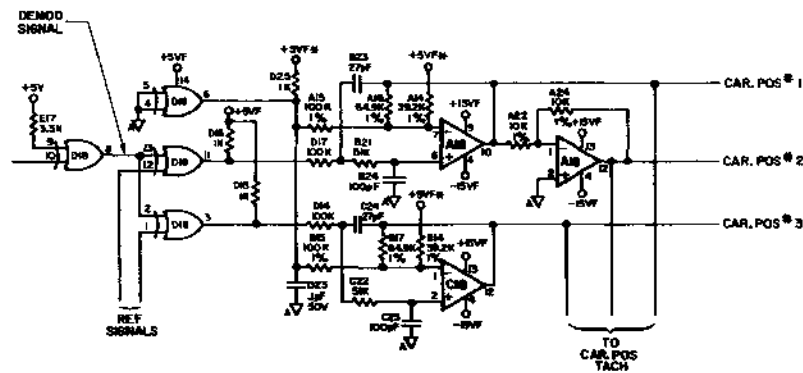
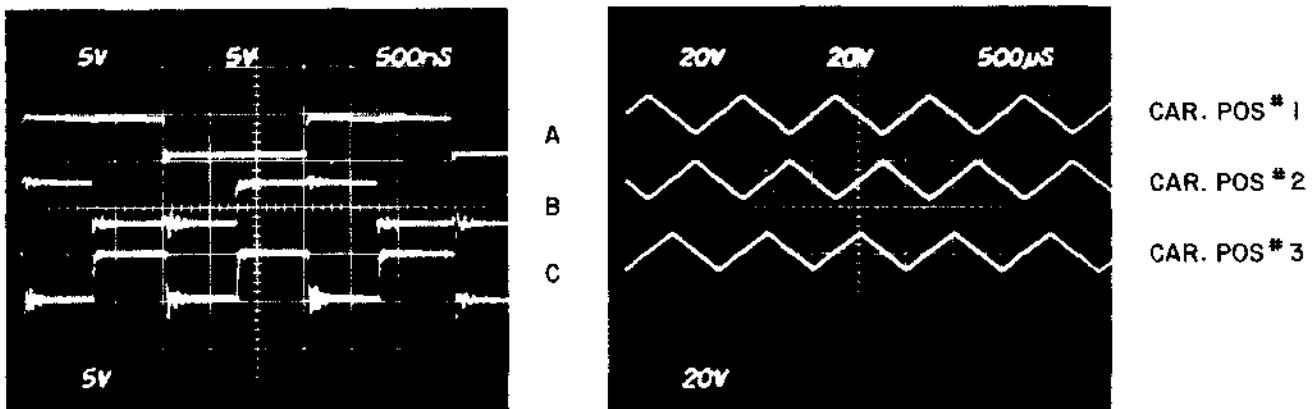
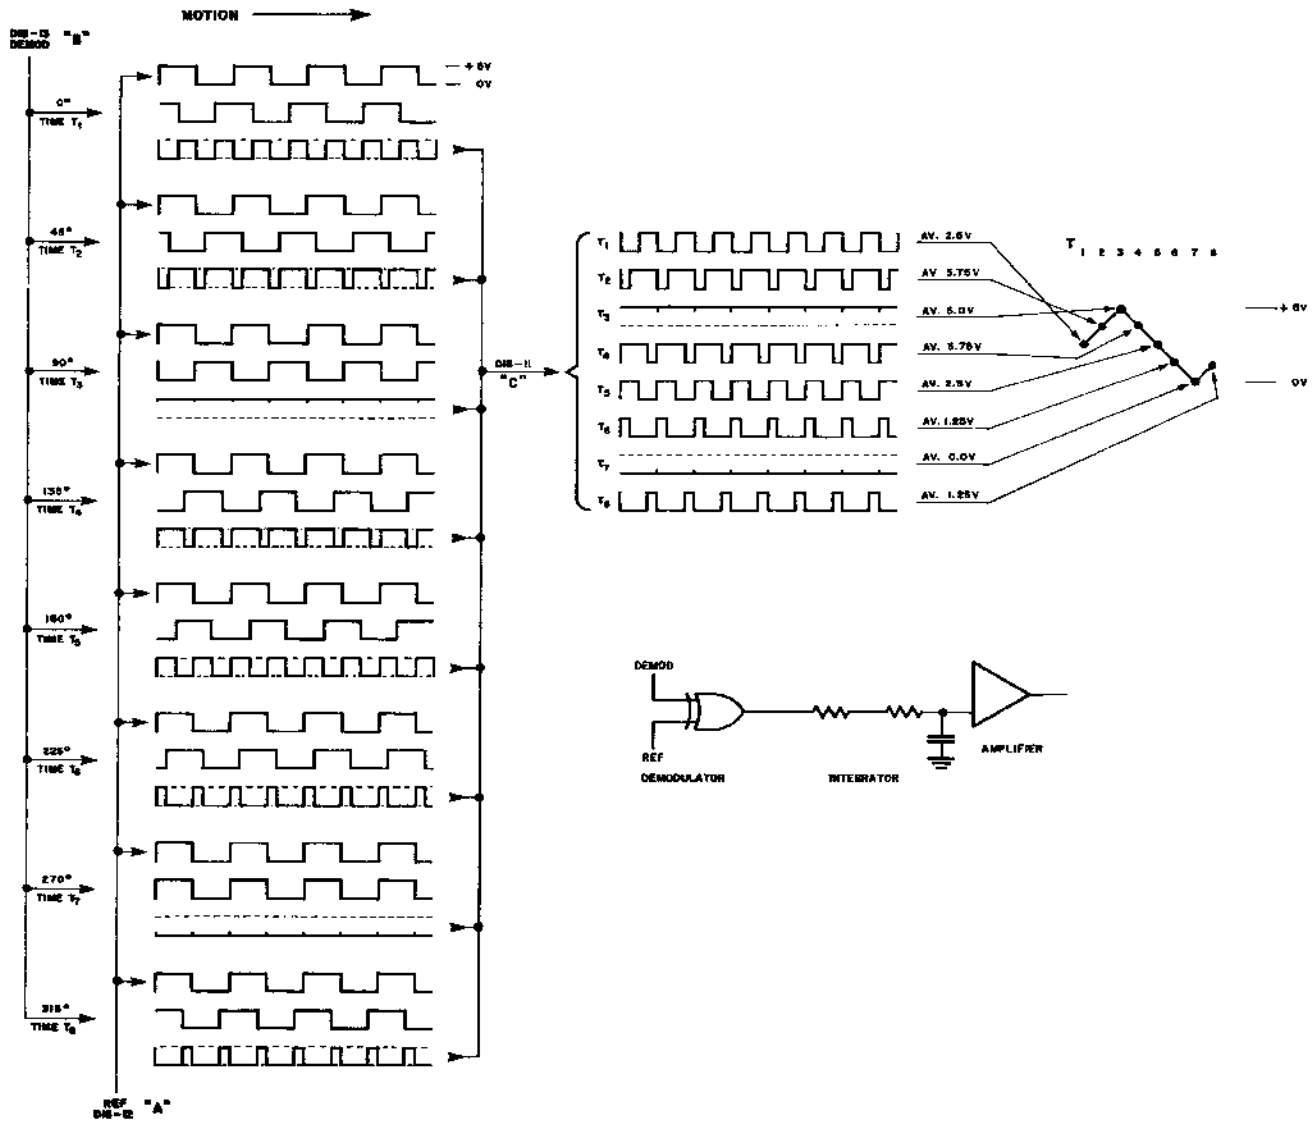

Figure 2-18. Servo Feedback Demodulator/Amplifier
Figure 2-19. Servo Feedback Demodulator/Amplifier Waveforms
Figure 2-20. Waveform Analysis
Figure 2-18 is a partial schematic diagram showing the Servo Feedback Demodulator/Amplifier circuit. Figure 2-19 shows waveforms taken in this circuit.
The squarewave output of comparator E5 is inverted and applied to Exclusive OR gate D18-8 as the squared and inverted phase-modulated signal from the carriage servo transducer. This output of D18-8 is applied to Exclusive OR gates D18-3 and D18-11 along with reference squarewaves from the sinewave generator. Refer to Figure 2-19. Observe the two inputs to either D18-3 or D18-11, along with its output, on a multichannel oscilloscope which is synchronized to the sinewave generator while slowly moving the carriage by hand. The squarewave input from gate D18-8 (B) will appear to move with respect to the input on pin 1 or 12 from the sinewave generator (A). Then, the output (C) from either D18-3 or D18-11 will be a squarewave whose relative high-low status will vary as the high-low states of the two inputs vary with respect to each other. Figure 2-20 illustrates the development of the output waveform (C) from the two squarewave inputs (A and B), and further shows the sawtooth waveshape developed in the integrating circuits for input to amplifiers A18-10 and C18-12. The output of A18-10 is then supplied to amplifier A18-12. These three amplifiers produce the waveshapes called CAR POS SIG #1, CAR POS SIG #2, and CAR POS SIG #3.